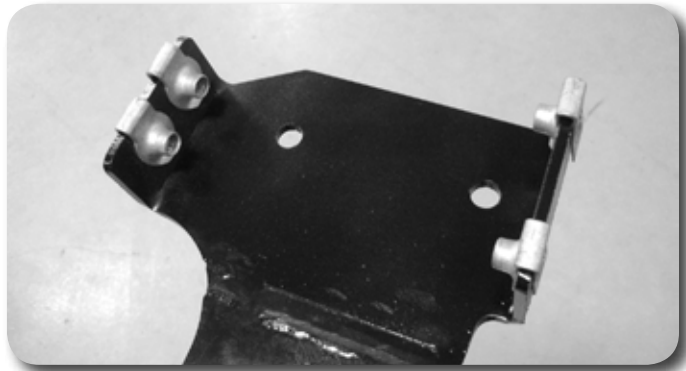

Figure 11
37. Remove the factory U-nuts from the factory brackets and transfer them to the provided brackets. See Figure 11